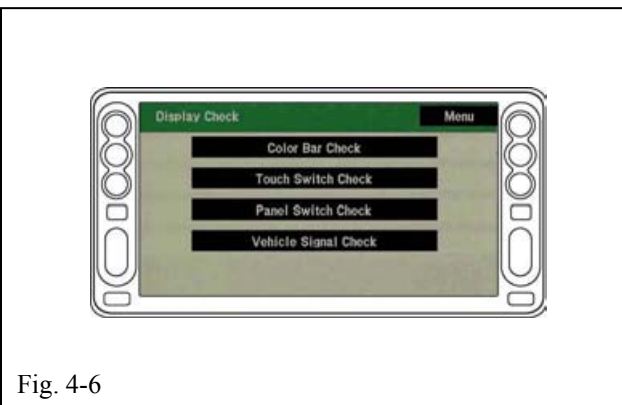

Fig. 4-6
- (f) Touch "Vehicle Signal Check" to display the "Vehicle Signal Check" screen (Fig. 4-6).